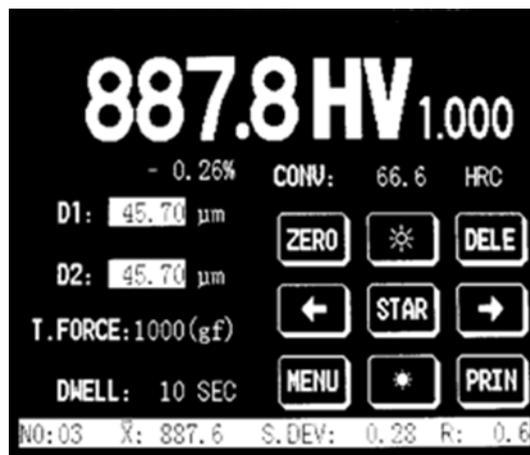

Figure 5-5 Test Completes
6. After the test is completed, the objective will automatically return to the working position. The testing machine will display as Figure 5-5.